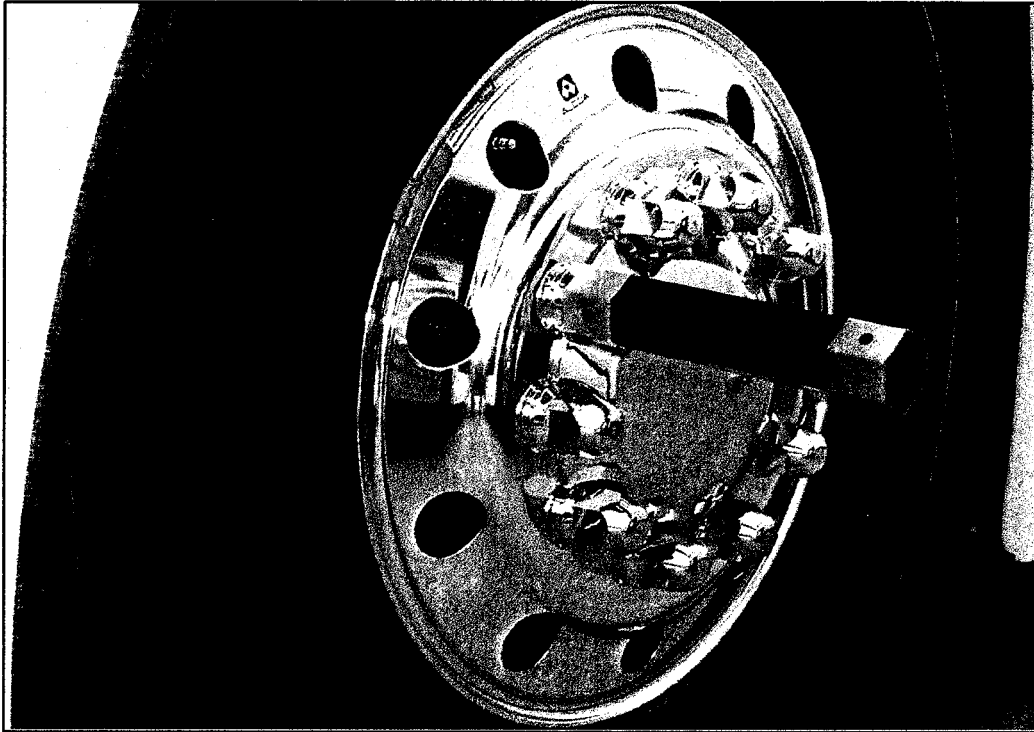

Figure 2. Front / tag axle 11-piece hub cover with removal tool.
3. Locate the 11-piece hub cover on the front axle wheel end. Insert the removal tool on a lug nut cover (refer to Figure 2). Using the removal tool, in a back and forth action carefully separate the lug nut cover from the lug nut. Repeat to remaining nine (9) lug nut covers until the center hub cover is released. Place aside to be re-installed at a later step in this procedure.